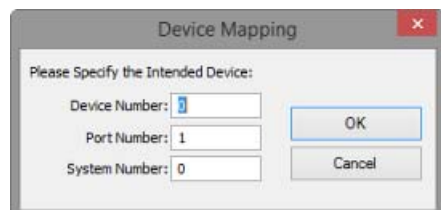

FIG. 36 Device Mapping dialog
2. Select **Device Mapping** from the File Transfer List Bar Context Menu to open the *Device Mapping* dialog (FIG. 36):